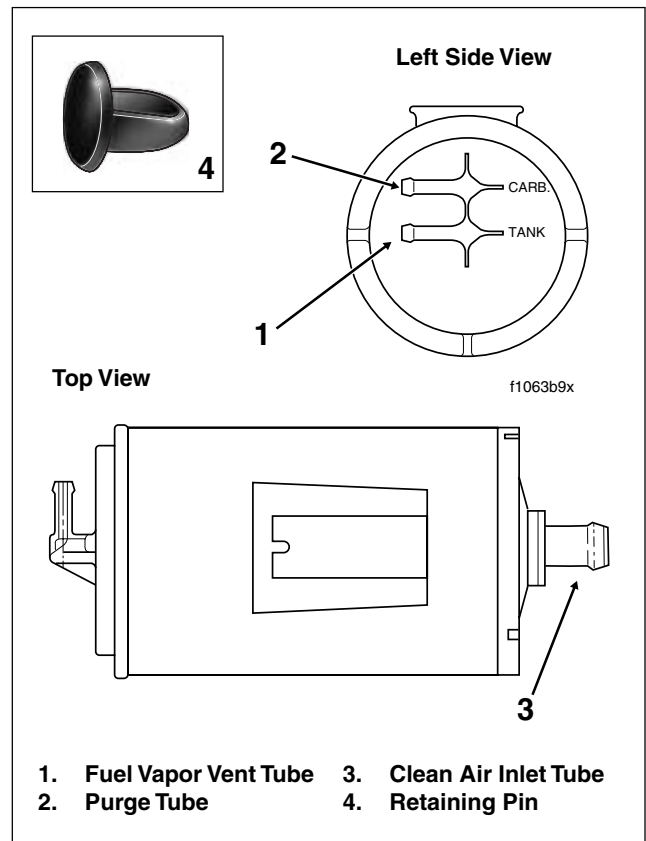

Figure 4-23. Charcoal Canister
- Reaching into battery box, pry plastic retaining pin out of hole on left side. See inset of Figure 4-23.
- Moving to rear left side of motorcycle, center a flashlight on drive belt and direct the beam forward. Note the two tube connections on the left side of the canister. See Figure 4-23. Reaching in between battery box and frame member, pull tubes from canister.
- With tongued side up, slide canister into cavity using opening between battery box and right side frame member. Start tongue into grooves on left side of battery box. Push the canister toward the right side of the motorcycle until fully engaged. Snap plastic retaining pin into hole at bottom of battery box (left side) to lock position of canister. See inset of Figure 4-23.